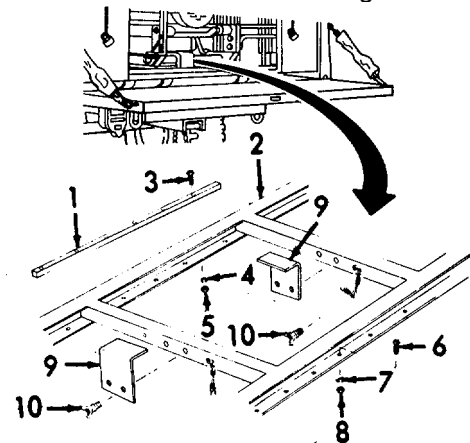

Figure 6-17. Generator Track and Holddown Assembly, Installation.
- (1) Inspect for missing or damaged hardware.
- (2) Inspect holddowns for cracks, elongated holes, and rust/corrosion.
- (3) Inspect track for cracks, elongated holes, and rust/corrosion.
- (4) Inspect bar for cracks, elongated holes, rust/corrosion.
f. Installation (Refer to Figure 6-17).
- (1) Place bar (1) into position on generator track (2), Secure with six screws (3), six washers (4), and six nuts (5). Repeat for other bar.
- (2) Install track (2).
- (3) Install thirty-six screws (6), thirty-six washers (7), and thirty-six nuts (8).
- (4) Install two holddowns (9). Secure with four wingbolts (10).